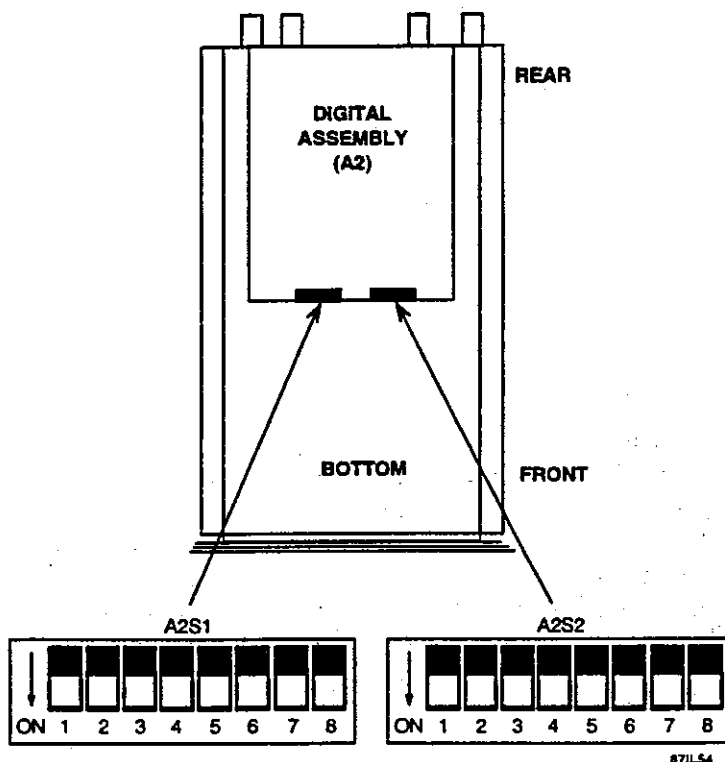

Figure E-4. Location of Switches A2S1 and A2S2 in the WJ-8712A and WJ-8712P
- b. Remove twelve (12) flat-head screws from the bottom cover and remove the bottom cover.
- c. Locate switches S1 and S2 on the A2 assembly (refer to **Figure E-4**).
- e. Replace the bottom cover and secure it in place with the twelve (12) screws removed in step b.